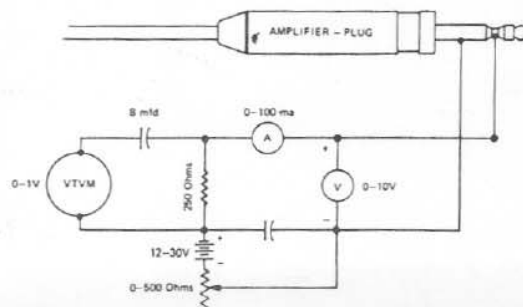

FIGURE 5 - Test Set-Up
- A. Microphone and Amplifier—Connect headset to circuit in Figure 5. Adjust test voltage to read between 7 and 9 volts. Amplifier should draw approximately 20 mA from supply. Hold tip of microphone tube approx-